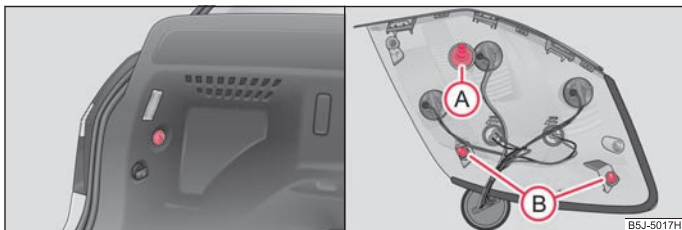

Fig. 175 Remove the rear light unit / install the rear light unit
- Hold tight the rear light unit with one hand and unscrew the plastic nut with the other hand $\Rightarrow$ fig. 175 - left.
- When re-installing, first insert the rear light unit with the screw **(A)** into the opening of the body $\Rightarrow$ fig. 175.
- Hold the rear light unit tight with one hand, screw on the nut with the other hand and tighten it $\Rightarrow$ fig. 175.